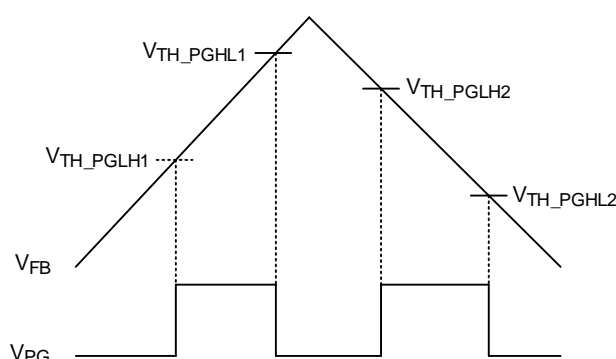

Figure 2. The Logic of PG for RT6360GQW
The RT6360GQW features an open-drain power-good output (PG) to monitor the output voltage status. The output delay of the comparator prevents false flag operations for short excursions in the output voltage, such as during line and load transients. Pull-up PG with a resistor to an external voltage source and it is recommended to use a pull-up resistance between the values of 1k Ω and 10k Ω to reduce switching noise coupling to the PG pin. The PG assertion requires an input voltage above 1.5V. The power-good function is controlled by a comparator connected to the feedback signal VFB. If VFB rises above the power-good high threshold (VTH_PGLH1) (typically 94% of the reference voltage), the PG pin will be in high impedance and VPG will be held high after a certain delay. When VFB falls below the power-good low threshold (VTH_PGHL2) (typically 92% of the reference voltage) or exceeds VTH_PGHL1 (typically 109% of the reference voltage), the PG pin will be pulled low. For VFB higher than VTH_PGHL1, VPG can be pulled high again if VFB drops back by a power-good high threshold (VTH_PGLH2) (typically 106% of the reference voltage). Once started-up, if any internal protection is triggered, PG will be pulled low to GND. The internal open-drain pull-down device (typically 6 Ω) will pull the PG pin low. The Power-Good indication profile is shown in Figure 2.